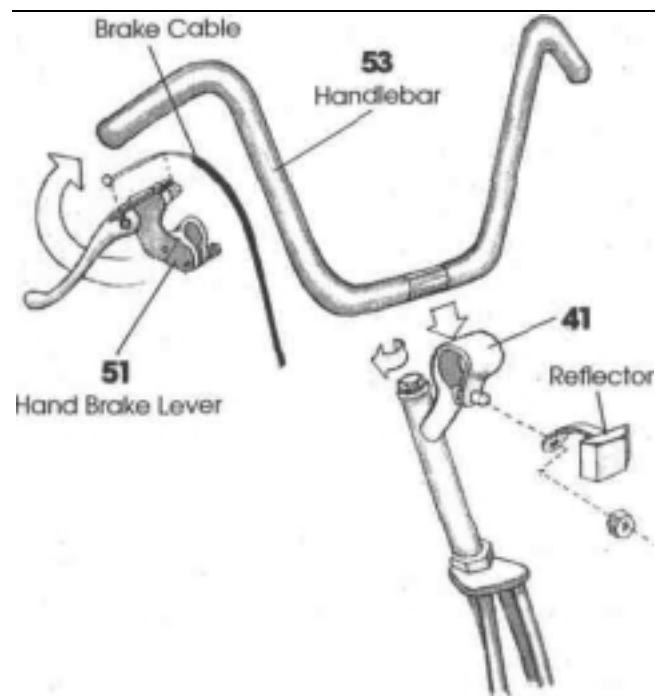
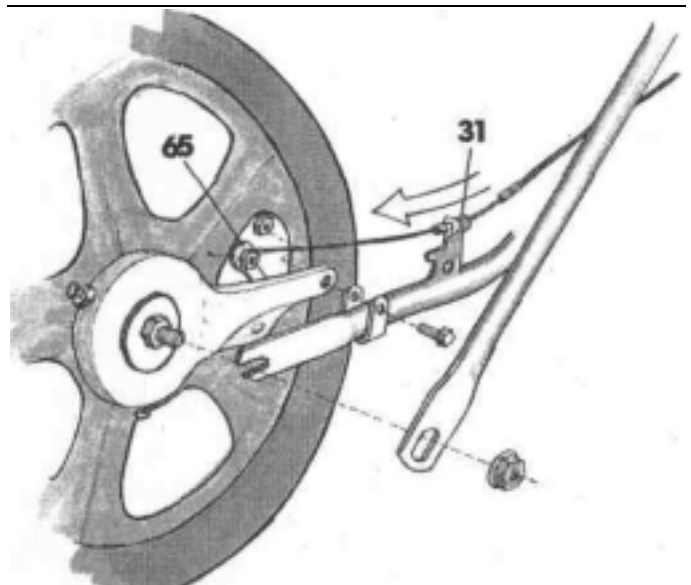

Fig. 5
Fig. 6
Place the handlebar (53) through the clamp on the stem (41), with the long bolt on stem to the rear of the handlebar (see figure 5). Attach the front clear reflector to the bracket found in the reflector bag. Remove clamp nut and washer from front bolt of stem and install reflector assembly. Reinstall washer and tighten clamp nut. Place stem into fork until the line marked on the stem is no longer visible. Align the handlebar to the fork, facing straight ahead, and tighten bolt in stem firmly. Do not over tighten as this may damage the fork tube. Position handlebars to a comfortable position, tighten clamp nut.
Slide the handbrake lever (51) on the right side of the handlebar and lightly tighten, leaving room to install handle grips (see figure 5). Place the brake cable (52), side with the stud, into the handbrake. Thread the other end of the brake cable through both the adjusting barrel (31) and the hole in the screw (65), on the band brake lever (see figure 6). It will be necessary to loosen screw to locate hole. Pull back lever on band brake to engage brake, making sure cable is tight, and tighten screw (65). Squeeze hand brake several times and check brake adjustment. If brake does not engage, loosen screw on band brake lever, pull hand brake lever back, tighten cable and retighten screw. Brake cable will stretch after several times of use and may need to be readjusted.